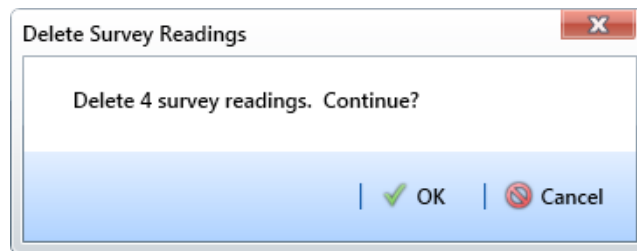

Figure 7-91. Delete Survey Readings
- 8 When the message *Delete Survey Readings* displays, click **OK** to delete station numbers and associated survey readings. Clicking **Cancel** cancels the operation (Figure 7-91).